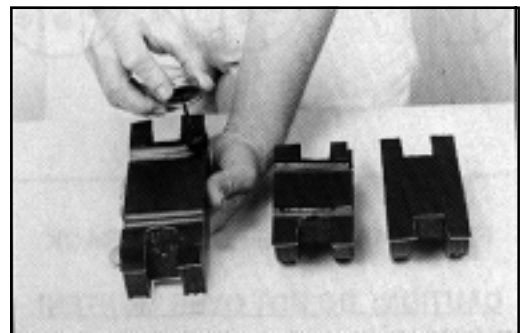

FIGURE 16 – BRUSH C-CEMENT OVER LOCK-TAPE SEALANT
8.02 Before installing prepared cables into the End Plate halves, apply 1/4" wide bead of C-Cement adjacent to the drilled hole. (Figure 16)